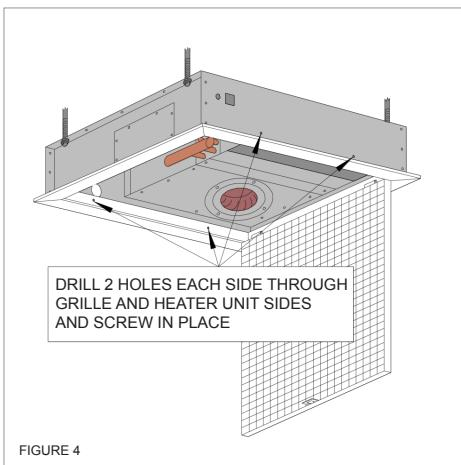

FIGURE 4
5. Drill four holes (two in each side) 3mm (1/8") holes and secure with the provided screws (See fig. 4). Once secured the grille can be opened and closed by pushing against the grille on the side with the closure (Once to open, Once again to close), care should be taken not to bend the grille.
- 5) Drill four holes 3mm (1/8") holes (two in each side) and secure with the provided screws (see figure 4). Once secured the grille can be open and closed by pushing against the grille on the side with the closure (Once to open, Once again to close), care should be taken not to bend the grille.